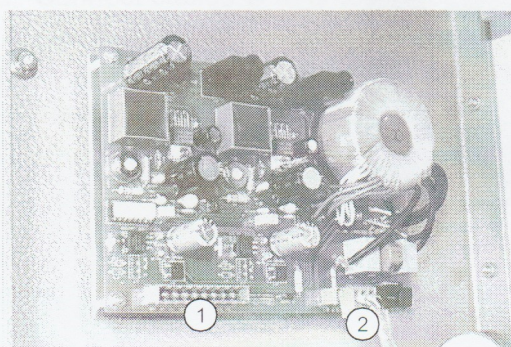

Figure 2-7 Connections on board
3. Fasten sound device with three screws (screws which are used before) through the threading holes (see arrows, figure 2-7) from the projector inside.